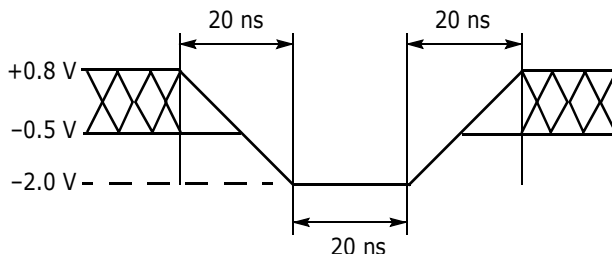
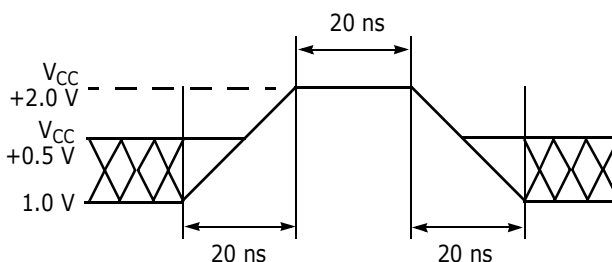

Figure 8. Maximum Negative Overshoot Waveform
Figure 9. Maximum Positive Overshoot Waveform
1. Minimum DC voltage on input or I/Os is -0.5 V. During voltage transitions, inputs or I/Os may undershoot V_{SS} to -2.0 V for periods of up to 20 ns. See Figure 8. Maximum DC voltage on input or I/Os is $V_{CC} + 0.5$ V. During voltage transitions outputs may overshoot to $V_{CC} + 2.0$ V for periods up to 20 ns. See Figure 9.